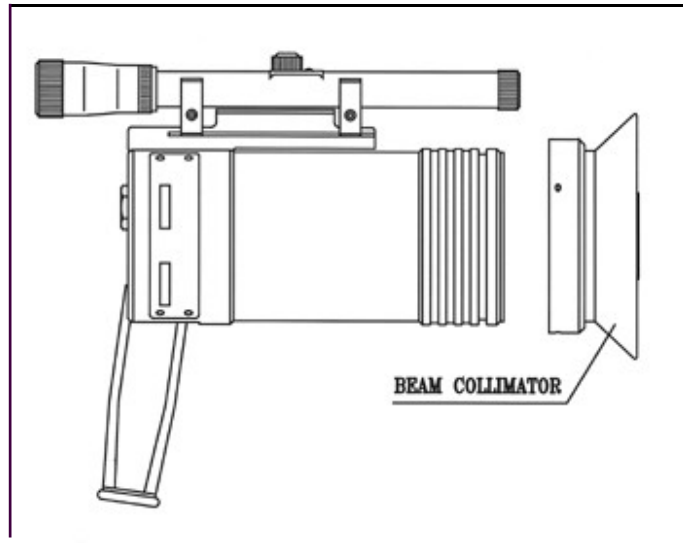

Figure 18: Fire Simulator
The EExde approved version provides an additional EExe terminal box attached below the EExd detector and therefore allows easier access for wiring in difficult environments and hazardous areas (see fig. 18). The unit is prewired to the terminals in the additional EExe terminal section ready for field wiring connections
- 3 Place the detector, with its conduit inlets / electrical entries pointing down, on the holding plate of the swivel mount (Fig. 8 item 7). Secure the detector by four (4) M6 screws with M6 spring washers from the Swivel Mount Kit using the holes (Fig. 9 item 5). You can use the thread on the modified cover (Fig. 18 item 1) marked either triangle symbol or square symbol. Use No. 5 Hex Key for M6 screws.
2. WIRING (REFER TO FIG. 18.)
- 2 Release the four (4) slotted-head screws (item 3) that secure the chamber cover (Item 2). The chamber is now revealed.